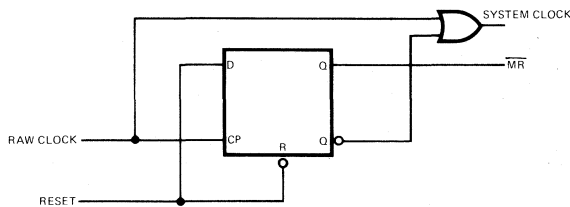

Fig. 3. Initialization Circuit
Initialization of the non-pipeline systems is rather straightforward. Whenever the 4708B \overline{MR} input is LOW, the program counter (PC) is cleared and hence all the Address outputs of the 4708B will be LOW. This address then defines the starting location for the microprogram execution. The PC is held clear as long as the \overline{MR} input is LOW. A simple initialization scheme is shown in *Figure 3*. The flip-flop is held clear by a low-level Reset input. The Q output of this flip-flop is connected to the \overline{MR} input of the 4708B. As long as the reset signal is LOW, the Raw Clock signal is blocked by the OR gate, due to the HIGH level from the \overline{Q} output, thus the System Clock output will be HIGH. When the Reset input goes HIGH, the following LOW-to-HIGH transition of the Raw Clock sets the flip-flop. The OR gate passes the Raw Clock input as the System Clock which then can be used to drive the data path and the CP input of the 4708B.